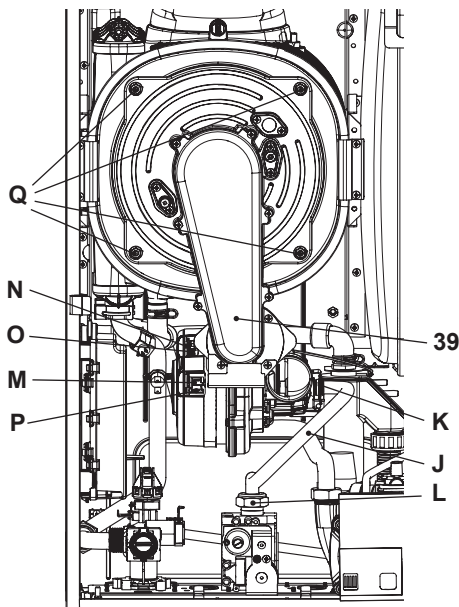

Fig. 9.12
Removing the fan burner unit 39 in Fig. 9.12.
- Insert a flat screwdriver in the connector recess P and lever towards the bottom, disconnect the connector at the same time M by pulling towards the front M (Fig. 9.12).
- Disconnect the fan connector N by pressing the plastic hook O positioned at the bottom part of the connector (Fig. 9.12).
- Unscrew screws Q and remove the fan burner unit 39 (Fig. 9.12)
- Unscrew the Q screw nuts and remove the burner group fan 39 (Fig. 9.12)